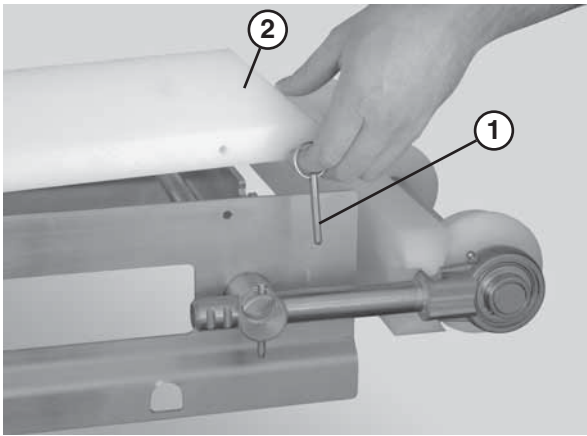

Figure 47
1. Remove the guides, if applicable, by removing the pull pins (**Figure 47, item 1**) that connect the guide (**Figure 47, item 2**) to the frame.
1. Remove the pull pins (**Figure 47, item 1**) that connect the guide (**Figure 47, item 2**) to the frame.